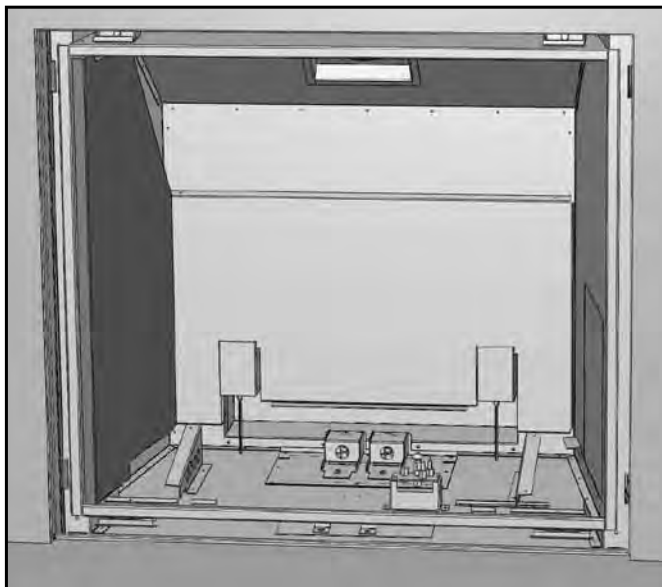

Figure 98: Rear & Left Porcelain Panels in Place.
3. Install the Rear Firebox Liner. This panel rests on top of the accent lights and Rear Brick Panel Support. It will stay in this location as you install the remaining panels. Refer to Figure 98.
4. Install the Left Firebox Liner Panel; it sits on the bottom front edge of the firebox (see Figure 98), a support bracket at the lower rear of the firebox, and is held in by a retainer at the top of the firebox. Adjust the panel retainers as required.